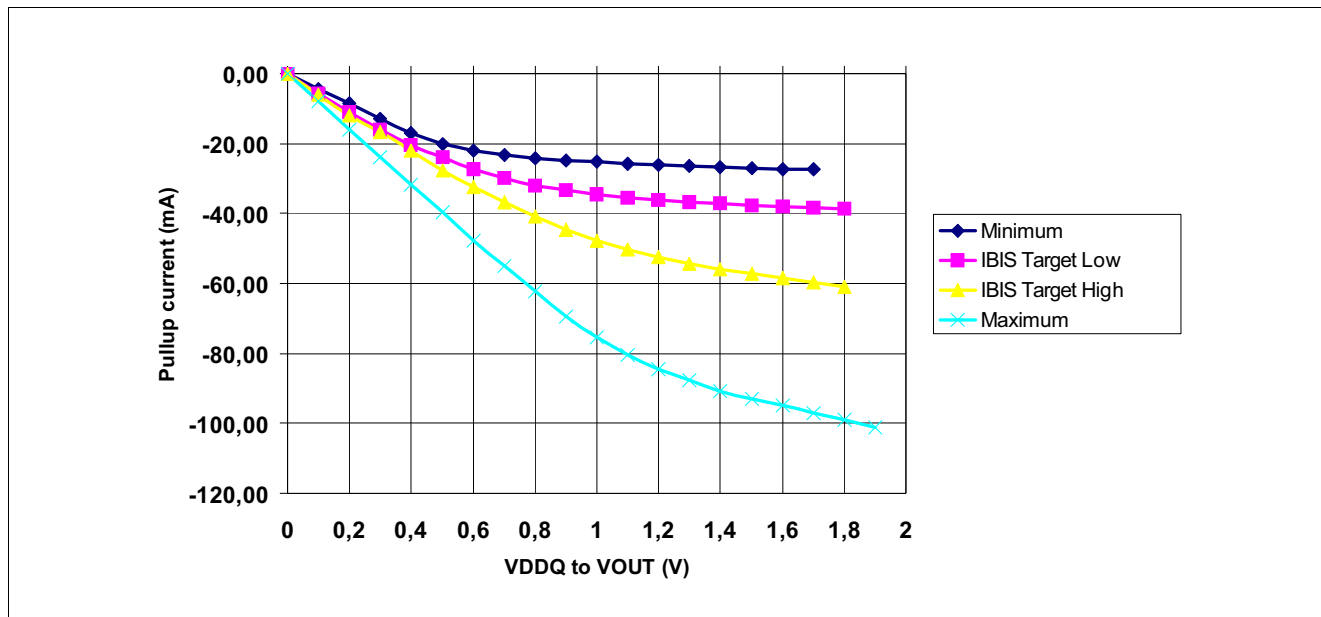
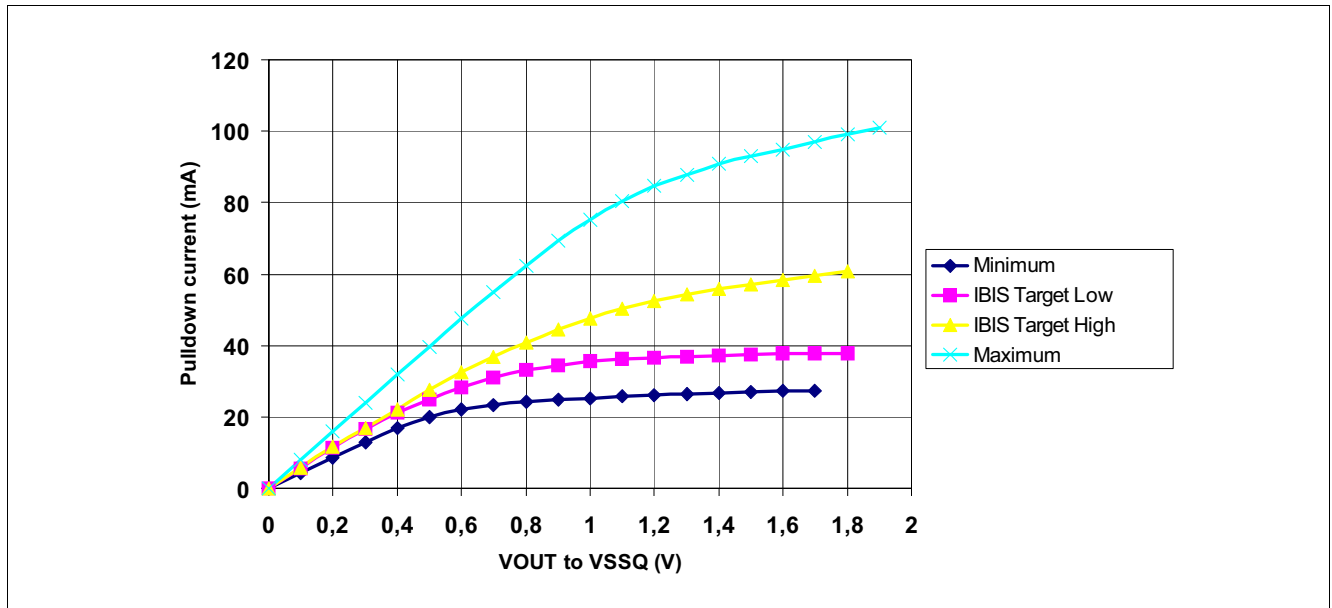

Figure 62 Full Strength Default Pull-up Driver Diagram
Figure 63 Full Strength Default Pull-down Driver Diagram
DDR2 SDRAM output driver characteristics are defined for full strength default operation as selected by the EMRS(1) bits A[9:7] = '111'. **Figure 62** and **Figure 63** show the driver characteristics graphically and the tables show the same data suitable for input into simulation tools.